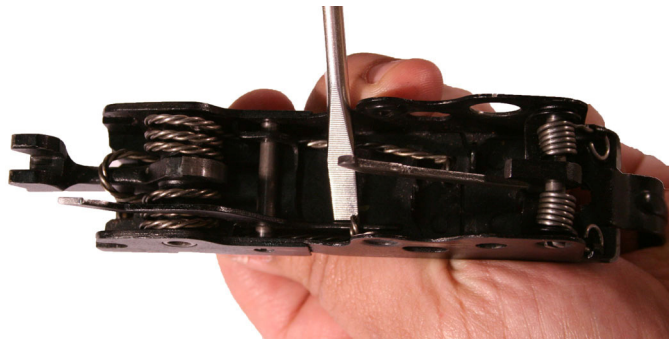

Figure 16. Lifting the Short Leg of the Main Spring over the Safety Sear.
8. Use a flathead screwdriver to lift the end of the short leg of the main spring over the safety sear. Ensure the back leg of the safety sear goes underneath the end of the short leg of the main spring. Refer to Figure 16.